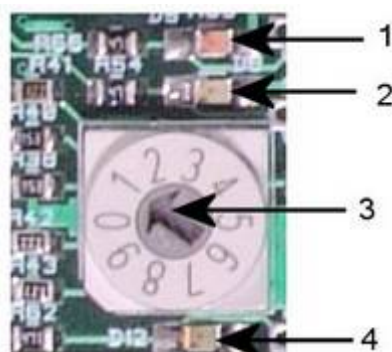

Figure 21 System checks and rotary dial switch setting
4. Check that the 5V On light (see 4 in Figure 21) illuminates and that the red LED on each reader flashes continuously (2 flashes per second).
2. Set the dial switch to zero (see Figure 21).